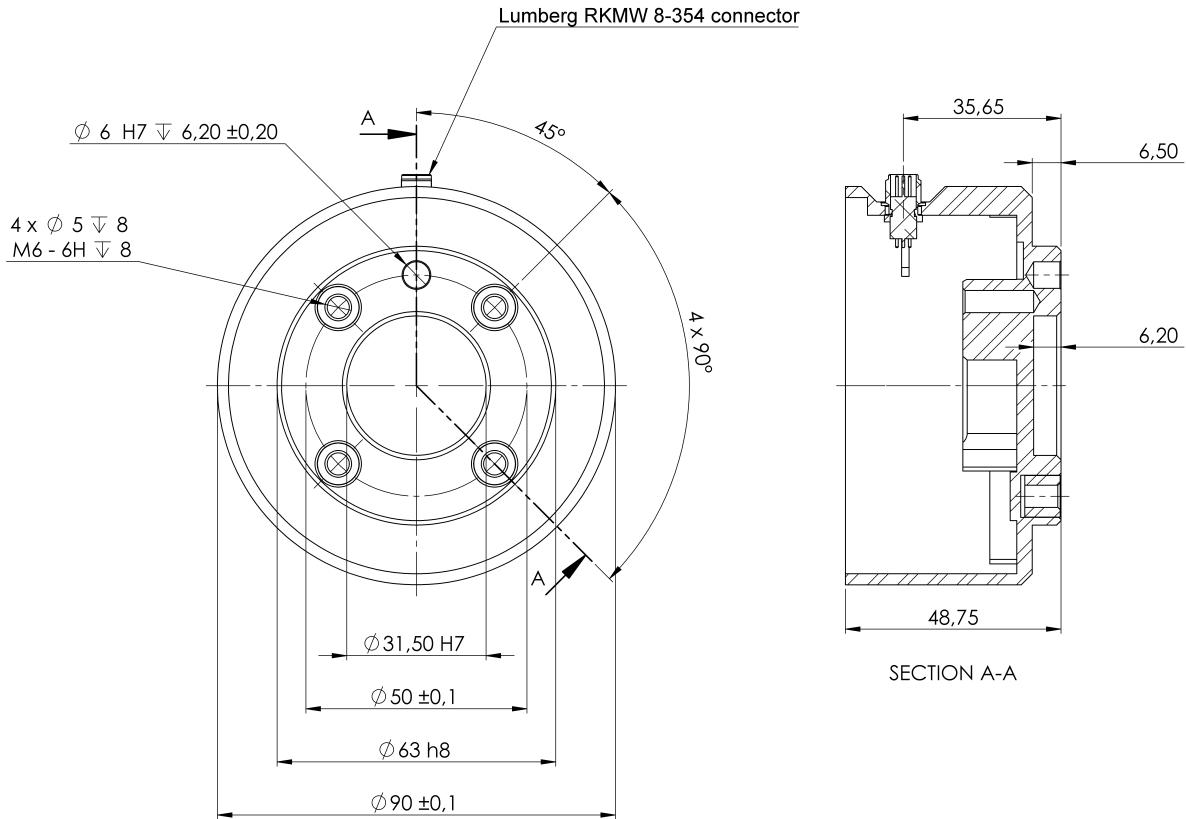

Figure 4.2: The tool output flange (ISO 9409-1-50-4-M6) is where the tool is mounted at the tip of the robot. All measures are in mm.
**Tool** The robot tool flange has four M6 thread holes for attaching a tool to the robot. The M6 bolts must be tightened with 8 N m, strength class 8.8. For accurate tool repositioning, use a pin in the Ø6 hole provided. Figure 4.2 shows dimensions and hole pattern of the tool flange. It is recommended to use a radially slotted hole for the pin to avoid over-constraining, while keeping precise position. Do not use bolts that extend beyond 8mm to mount the tool. Very long M6 bolts can press against the bottom of the tool flange and short circuit the robot.